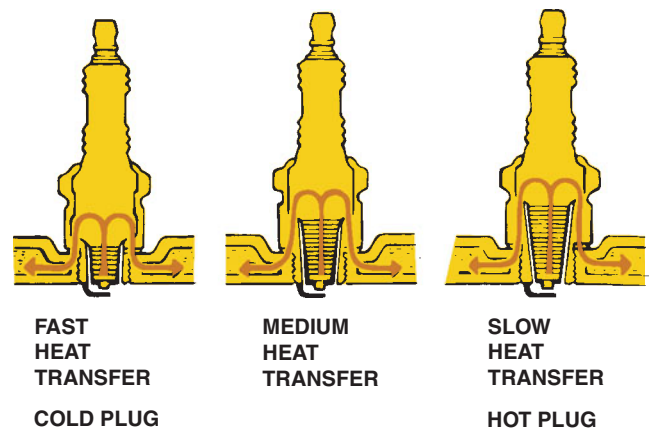

FIGURE 33-35 The heat range of a spark plug is determined by distance the heat flows from the tip to the cylinder head.
- **Heat range.** This refers to how rapidly the heat created at the tip is transferred to the cylinder head. A spark plug with a long ceramic insulator path will run hotter at the tip than one that has a shorter path, because the heat must travel farther. ● **SEE FIGURE 33-35.**